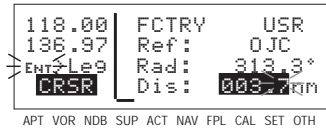

Figure 5-36
11. Use the right inner and outer knobs to select the desired distance from the reference waypoint (figure 5-36).